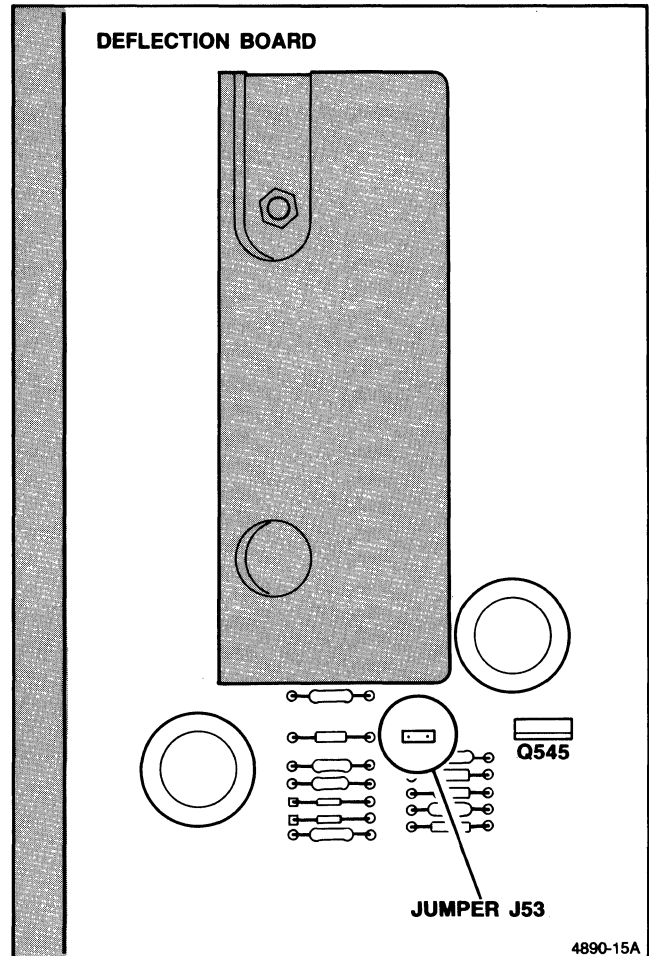

Figure 5-6. Removing Jumper from J53.
12. Remove – the jumper from J53 on the center of the Deflection board. Use needle-nose pliers to access and remove this jumper. Then, power up the terminal. See Figure 5-6.